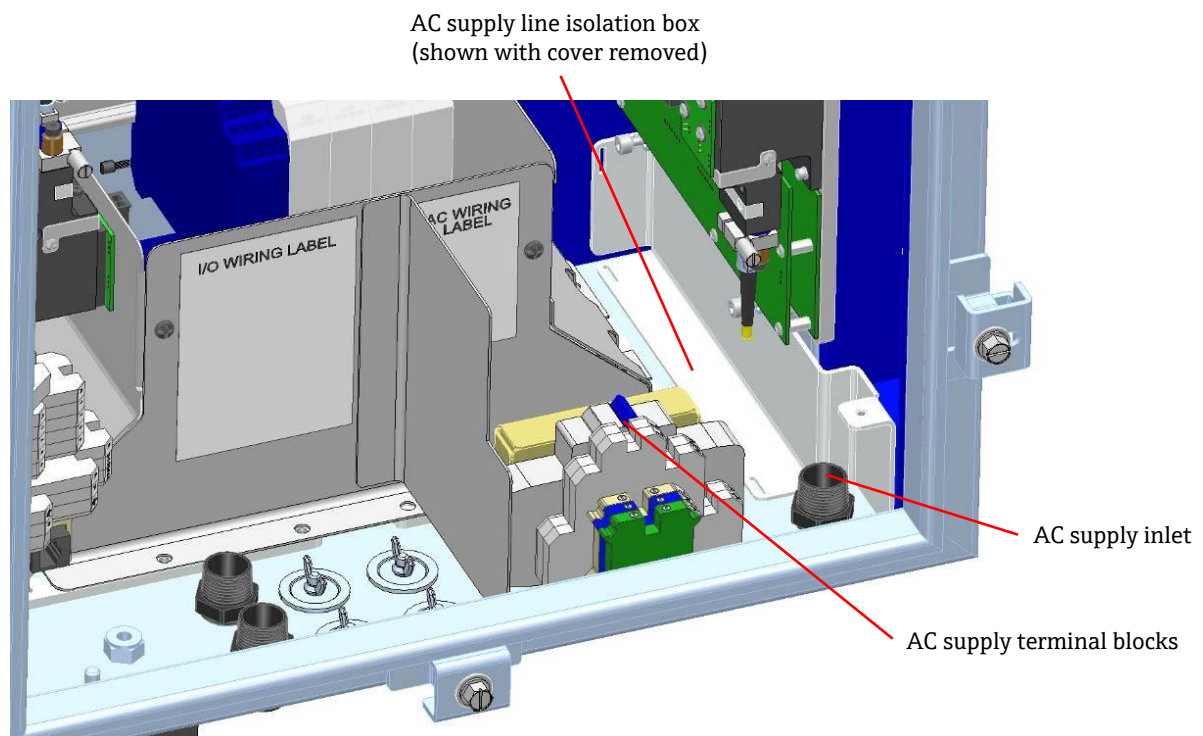

Figure 39. View of AC supply wiring area
Refer to Figure 39 when connecting the Raman Rxn5 to line power.
2. Route AC power to into the Raman Rxn5 unit through the bottom right liquid-tight strain relief, as indicated in Figure 39.
1. Route I/O wiring into the Raman Rxn5 unit through the six liquid-tight strain reliefs as indicated in Figure 39.